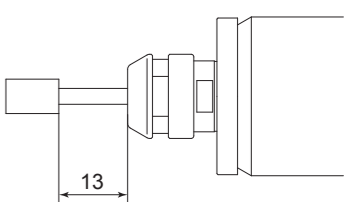

Fig. 9
- Do not exceed 13mm of overhang for mounted grindstones as shown in Fig. 9. If the overhang must exceed 13mm, reduce the motor speed in accordance with Table. 5.